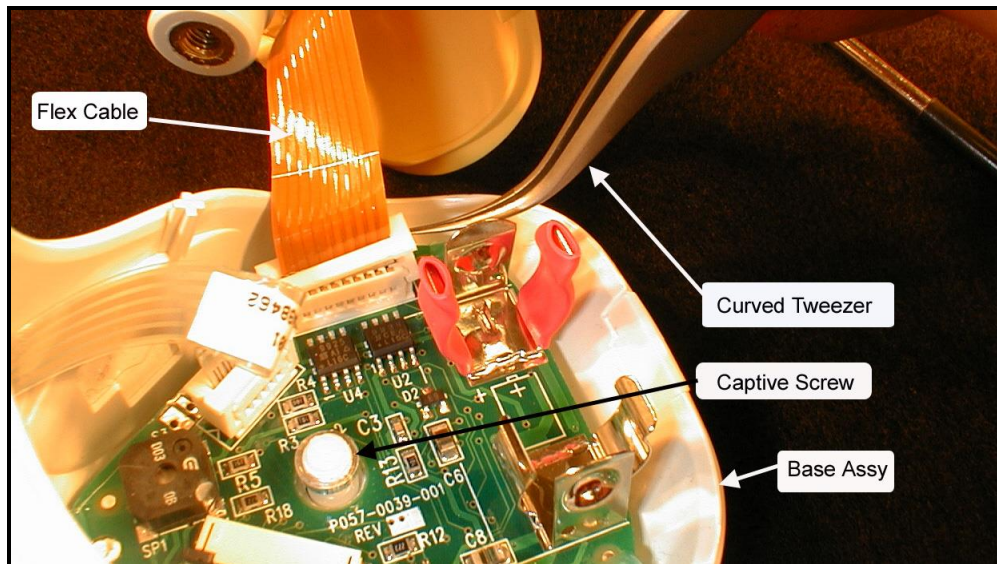

Figure 1 Flex Cable Connection and Base Captive Screw
2. Disconnect the Motor Flex Cable connector as in **Figure 1** and set the colored body assembly aside.